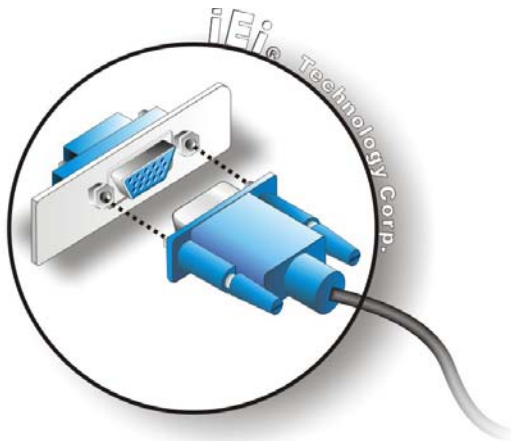

Figure 2-30: VGA Connector
- Step 3:** **Insert the VGA connector** Once the connectors are properly aligned with the insert the male connector from the VGA screen into the female connector on the AFL2-W15A-N270. See Figure 2-30.